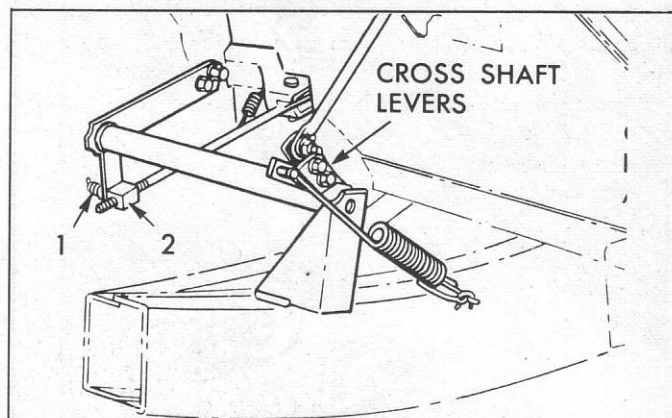

Fig. 5—Free Pedal Adjustment (58-62)
In 1959 a dual position pedal bracket was introduced (fig. 5) which made a fast release possible by repositioning the bracket on the pedal and thus changing the length of effective lever arm that attaches to the push rod.
2. On 1958 through 1962 Corvettes (fig. 5).